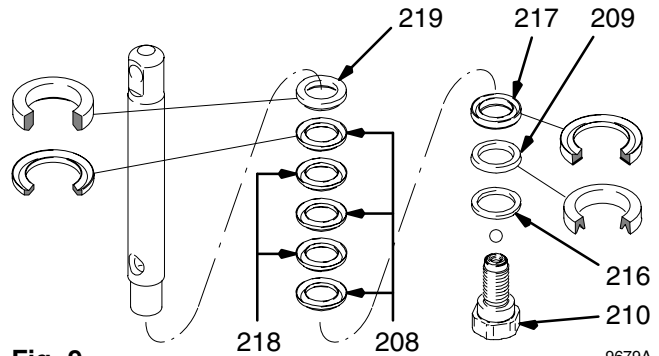

Fig. 9
Fig. 9. Soak all leather packings in SAE 30W oil for 1 hour minimum prior to assembly. Stack male gland (219) on piston rod. Alternately stack UHMWPE (208) and leather (218) packings (note orientation) on piston rod. Install female gland (217). Install backup washer (216) and u-cup (209) (note orientation) on piston valve (210). The special sealing patch on piston valve threads is good for four repackings. Use Loctite® on piston valve threads after four repackings.